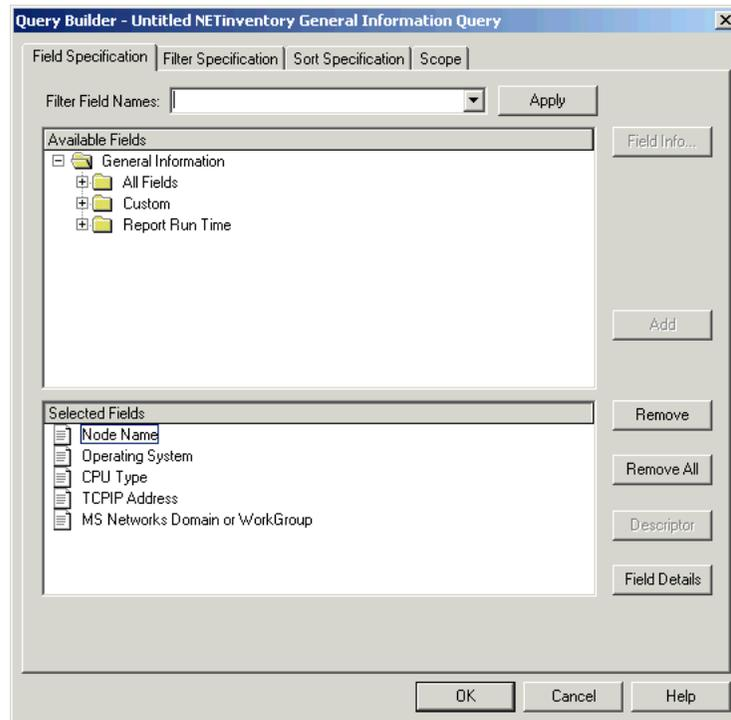

Fig. 244 Query Builder Dialog - Field Specification Tab
The **Query Builder** dialog appears (Fig. 244 on page 246).
- 1 Enter the string in the **Filter Field Names** text box (Fig. 244 on page 246).
The fields that contain the string appear in the **Available Fields** list (Fig. 244).